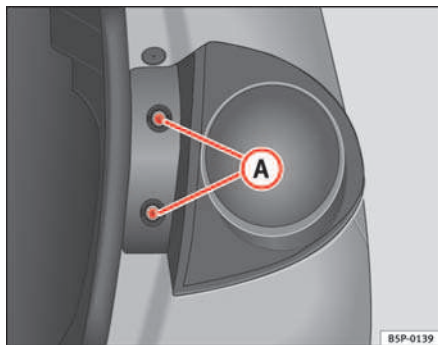

Fig. 181 Side lights and brake lights
- Remove the bolts ⇒ fig. 181 **A**